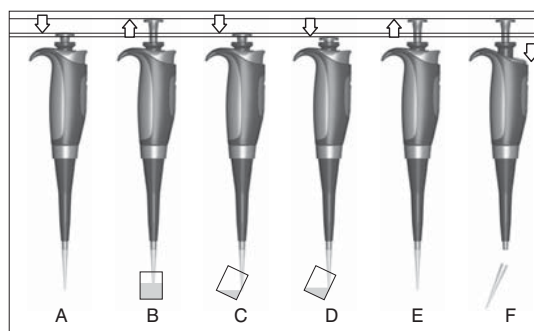

Fig. 4
- Wait for about 1 second before withdrawing the tip from the aspired sample, fig. 4.